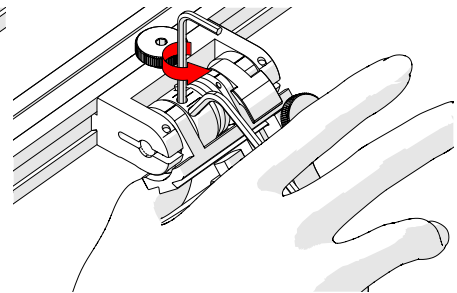

Fig. 144 - Press 3 mm hex wrench down
5. Lightly press the long arm of the 3 mm hex wrench down. Using the 2 mm hex wrench, loosen the force adjustment screw but do not remove it (Fig. 144).